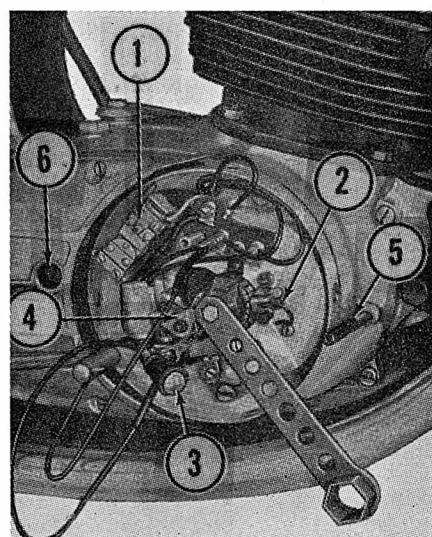

Fig. A3-3—View of right side with cover removed. Refer to text for adjusting the ignition timing.
**IGNITION AND ELECTRICAL.** All models are equipped with battery ignition system. The generator armature is mounted on the right end of the crankshaft and voltage is controlled by regulator mounted on the stator plate. Ignition breaker point gap should be 0.016 inch. Ignition timing should occur (breaker points just open) when the rear piston is 0.216 inch BTDC on 175cc models; 0.266 inch BTDC on 250cc models. The piston can be correctly positioned by inserting 6MM (15/64-inch) diameter rod through hole in crankcase and into hole in crankshaft as shown at (5—Fig. A3-3). If timing is incorrect, loosen the armature retaining screw and move the armature (and breaker cam) on the crankshaft as necessary.
**CLUTCH.** The clutch should have less than  $\frac{1}{2}$ -inch free play as measured at end of hand lever. If free play is excessive, adjust the cable. If adjustment can not be accomplished at cable adjusters on 250cc models, additional adjustment is available at screw (6—Fig. A3-3). Lock plate on screw (6) prevents fine adjustment and screw must be turned at least  $\frac{1}{8}$ -turn. Final adjustment should be accomplished at cable.